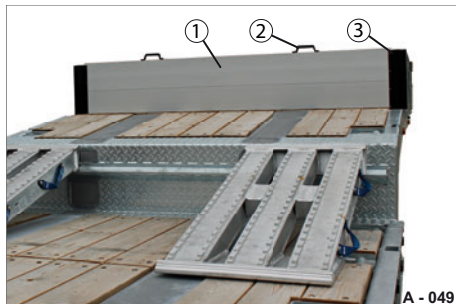

Fig. 58 Connectable platform gate
- Pull the platform gate (Fig. 58/1) by the handles (Fig. 58/2) completely out of the corner posts (Fig. 58/3).